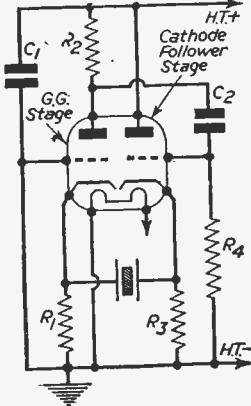
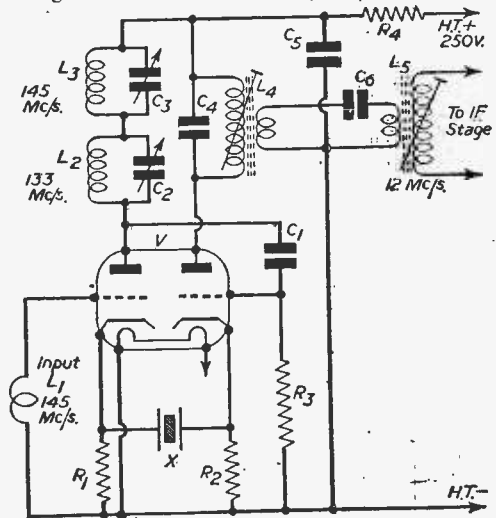

Fig. 5.—This circuit, of American origin, utilises a twin triode, with the first section functioning as a grounded grid amplifier.
Fig. 6.—A crystal-controlled frequency changer for 145 Mc/s.
using a cathode-coupled oscillator, has also been described by Butler and independently by Goldberg and Crosby (Radio Division, Bendix Aviation Corp.). The basic circuit is shown in Fig. 5. A high-slope twin triode is generally used, the first section acting as a grounded grid amplifier, and the second section acting as a cathode follower. The outputs from both the G.G. amplifier and from the cathode follower are in phase with the respective inputs, and so it can be seen that if the circuit amplification overcomes the small circuit losses, an oscillating system will be set up. The quartz crystal, presenting a low impedance at series resonance, serves to couple the two halves of the circuit together. In practice, to make the crystal oscillate at a desired frequency the load R2 of the first triode is replaced by a tuned circuit resonating at the correct overtone. An interesting application is shown in Fig. 6, which is a crystal-controlled frequency changer stage for 145 Mc/s. High-slope twin triodes, such
**COMPONENTS (Fig. 6)**